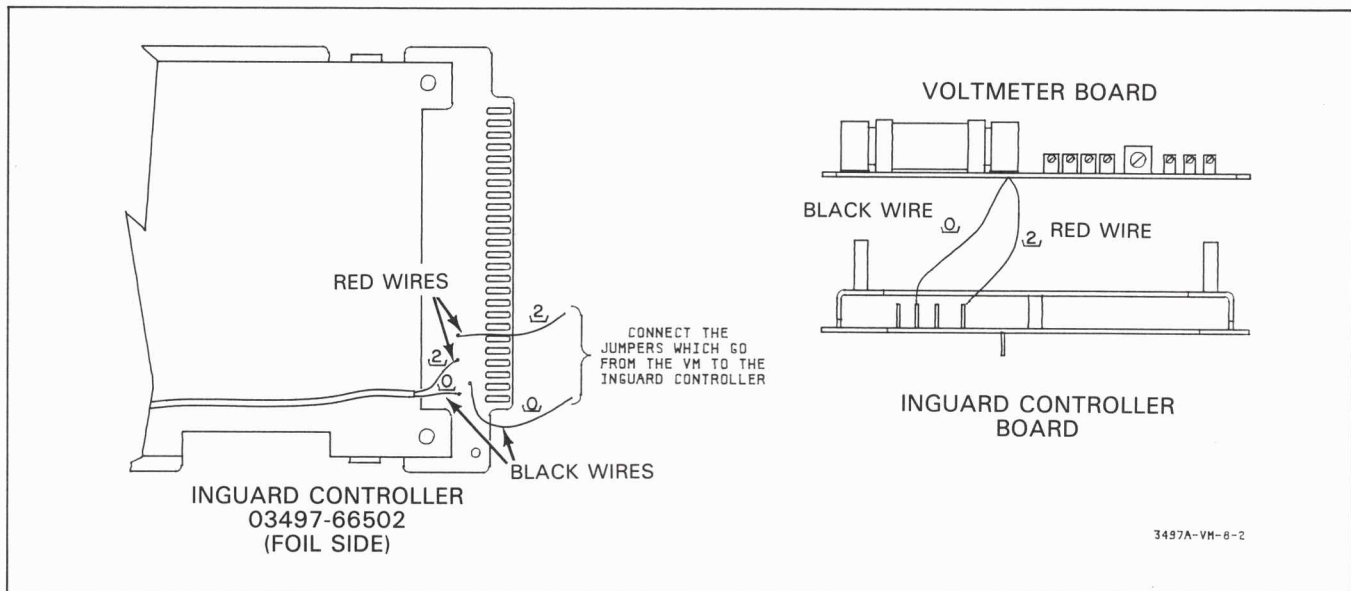
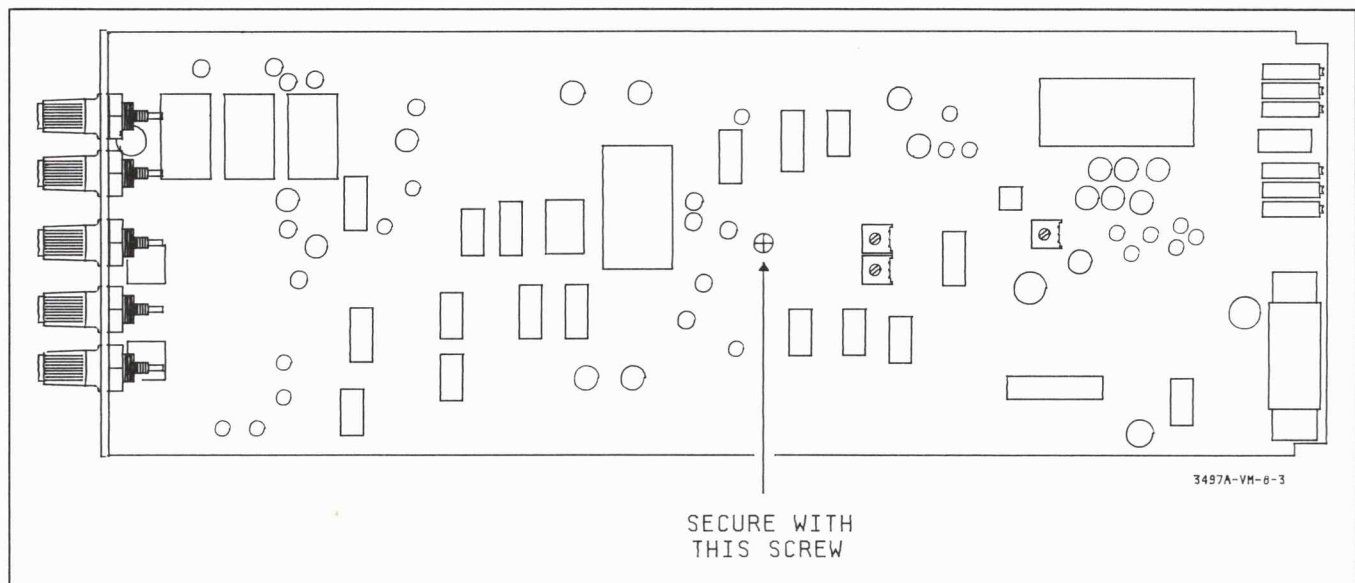

Figure 2-5. Inguard Controller Board with Voltmeter
Figure 2-6. Mounting Voltmeter on Inguard Controller
b. Locate the red and black twisted pair soldered to the board and connect it (with its female plug-in terminals) to the non-component side of the inguard controller board, as shown in Figure 2-5.
c. Place the voltmeter printed circuit board, component side out, in position over the inguard controller mounting frame, as shown in Figure 2-5. Secure the board with one machine screw (-hp- Part Number: 0515-0271), as shown in Figure 2-6.